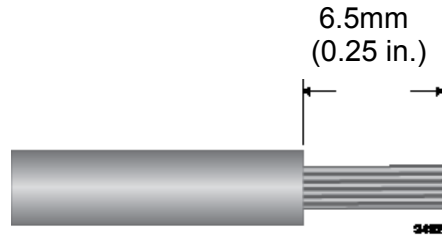

Figure 46. Stripping a Power Cable Wire
1. Strip 6.5mm (0.25 in.) of insulation from the ends of the stranded power wires with a wire insulator stripper. Refer to Figure 46 on page 105.